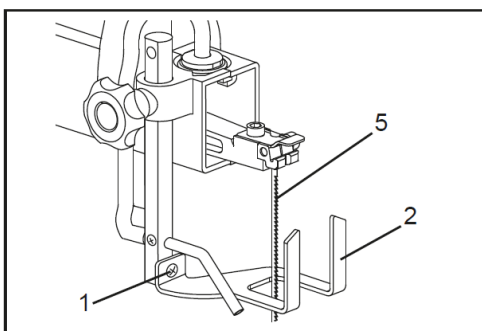
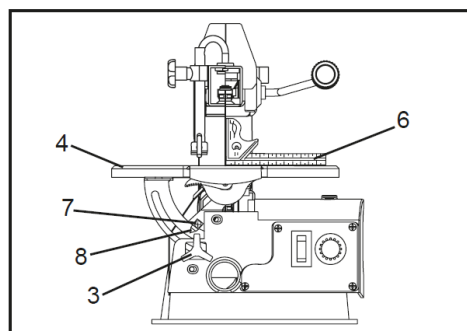

Fig. 8
Fig. 9
### 90 ° (0 °) BEVEL ADJUSTMENT (FIG. 8, 9)
1. Remove the foot of the blade guard (2) using the Phillips® screwdriver to loosen the screw (1). (Figure 8)
2. Loosen the table lock knob (3) and move the table (4) until it is approximately at a right angle to the blade. (Figure 9)
3. Use a combination square (6) to position the table exactly 90 ° (0 °) to the blade (5). If there is space between the square and the blade, adjust the angle of the table until the gap is closed. (Figure 9)
4. Lock the table lock knob (3) under the table (4) to prevent it from moving.
5. When the blade is exactly 90 ° (0 °) from the table, loosen the bevel indicator screw (7) with a Phillips® screwdriver.
6. Set the bevel scale (8) to the "0" mark on the bevel scale and retighten the indicator screw (7).
7. Attach the blade guard foot (2) with the Phillips® screwdriver so the foot rests flat against the table and tighten. (Figure 8)